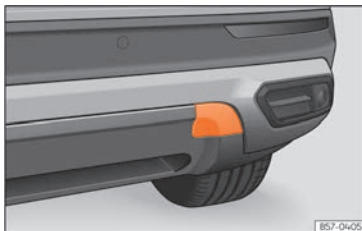

Fig. 47 On the right side of the rear bumper: remove the cover.
The housing of the screw towing eye is on the right side of the rear bumper behind a lid » **Fig. 47**.
- Press the upper side of the lid » **Fig. 47** to unclip it.